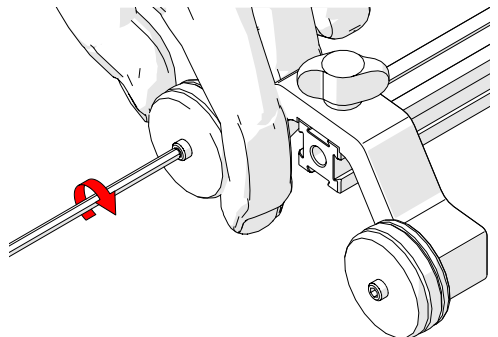

Fig. 19 - Wheel removal
1. Tightly grip the magnetic wheel to be removed. Using the 3mm hex driver, loosen the magnetic wheel from the axle (Fig. 19).